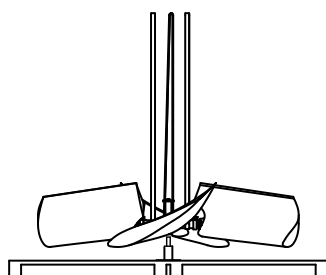

Figure 27. Lift Fan From Crate
4. Lift the fan off the shipping crate. Be careful not to damage blades (**Figure 27**).